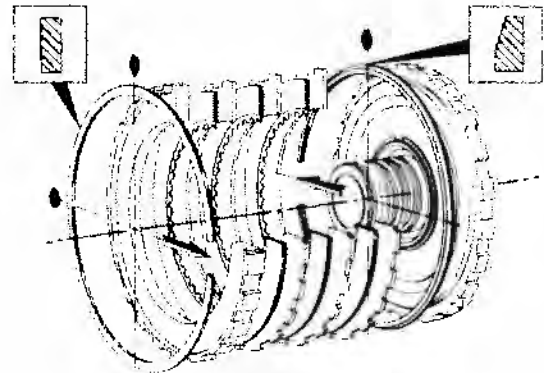

Fig. 7-121 Snap Ring Installation
(15) Install intermediate clutch backing plate, ridge upward or forward, and fasten in case with backing plate-to-case snap ring. This snap ring is flat on both sides. Locate gap of snap ring opposite band anchor pin. Refer to figure 7-121.